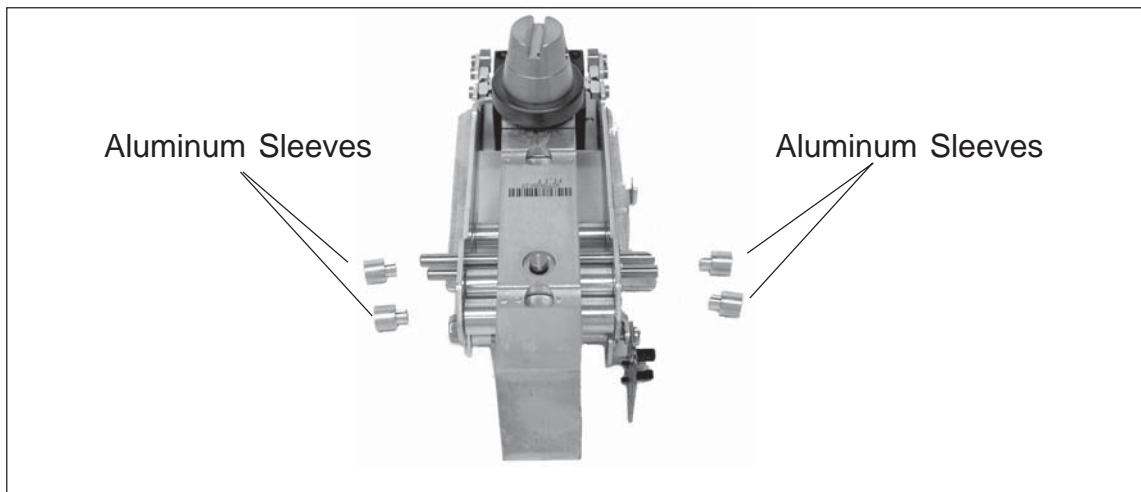

Figure 3-52. Aluminum Sleeves Removed.
9. Refer to Figure 3-52 and remove the aluminum sleeves as shown.
7. Refer to Figure 3-52 and replace the Aluminum Sleeves.